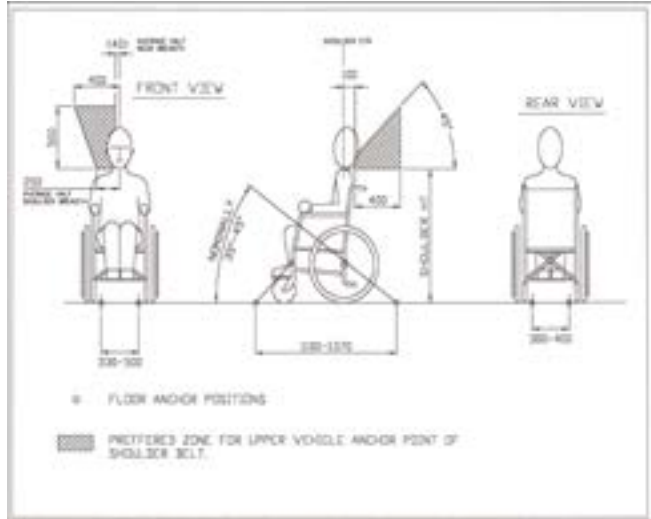

Figure 2
- A height provision (HHT) ranging from 1000mm to 1550mm should be made, depending on the size of the passenger. There should also be 200mm of clear space either side of the wheelchair centre line. If these clear space dimensions cannot be provided then any structure protruding into this space should be adequately padded and comply with impact performance requirements of ECE Regulation 21 'FMVSS 201'. All vehicle padding should comply with the flammability requirements of ECE Regulation 118 'FMVSS 302'. Guidance positions are shown in Fig 2.